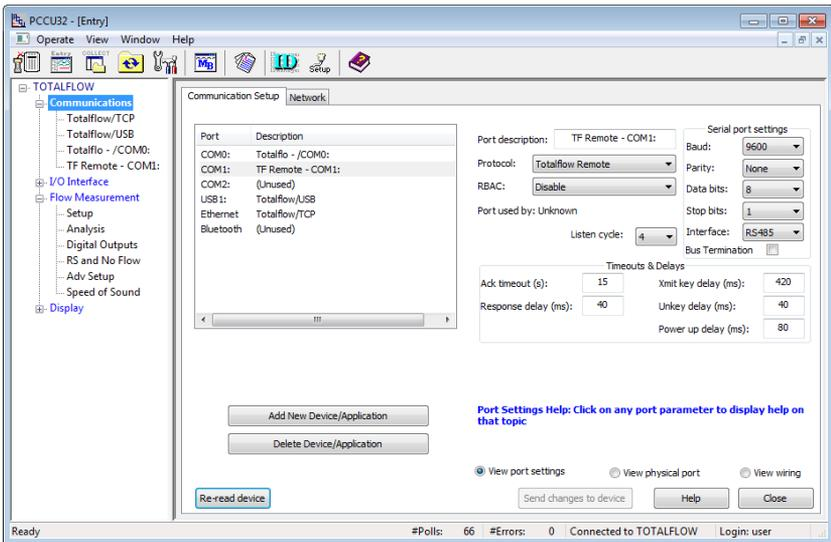

Figure 20: Communications setup screen
- In the navigation tree, click **Communications** (Figure 20).